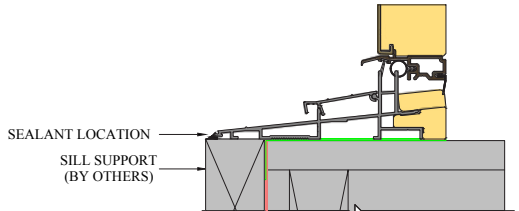

FIG. 22: STANDARD DOOR SILL
- B) Attach a sill support block beneath the sill. Apply a bead of sealant at the nose of the sill and support block. (Fig. 22)